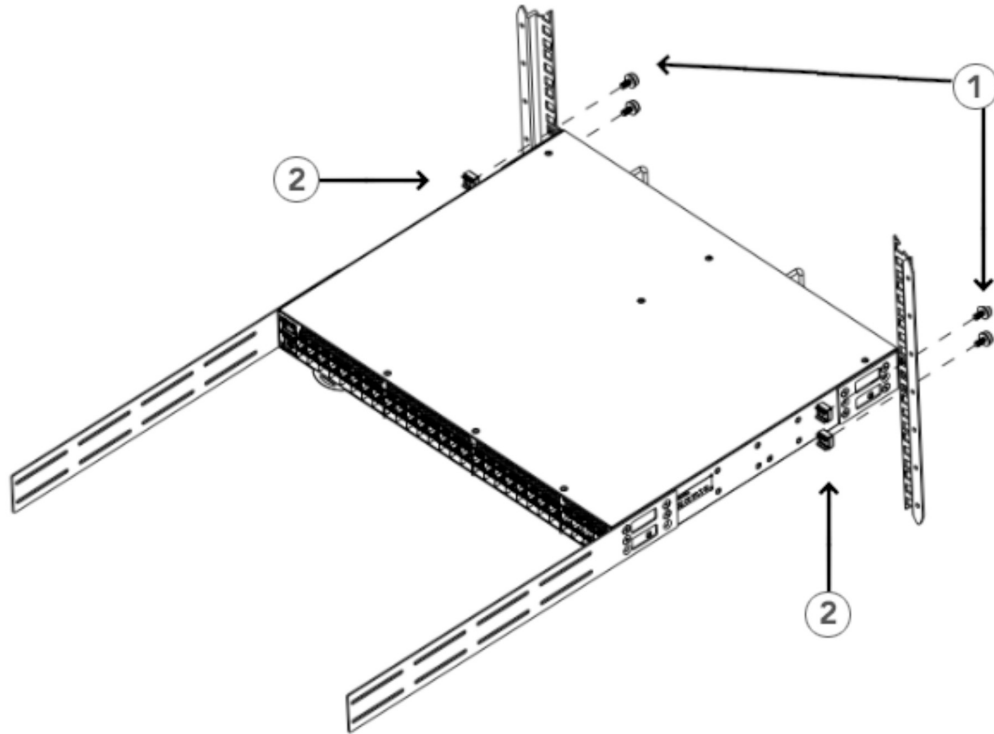

Figure 12. Positioning the device in the rack
1. Position the device in the rack, as shown in Figure 12 on page 22, providing temporary support under the device until the rail kit is secured to the rack.